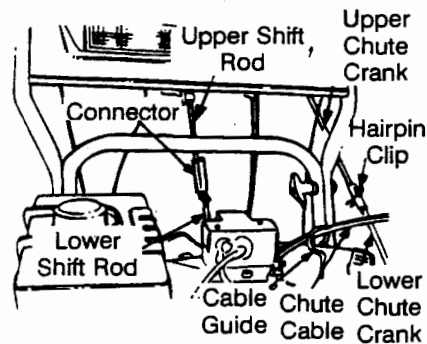

FIGURE 4
- Slide the shift rod connector down over the end of the lower shift rod. See Figure 4. Tap the connector until it locks on the lower shift rod.
- Remove the hairpin clip from the end of the upper chute crank. Slide the upper chute crank into the lower chute crank. Align the holes, and secure with hairpin clip. See Figure 4.
- If not already attached, slip the cables that run from the handle panel to the chute into the cable guide located on top of the engine. See Figure 4.